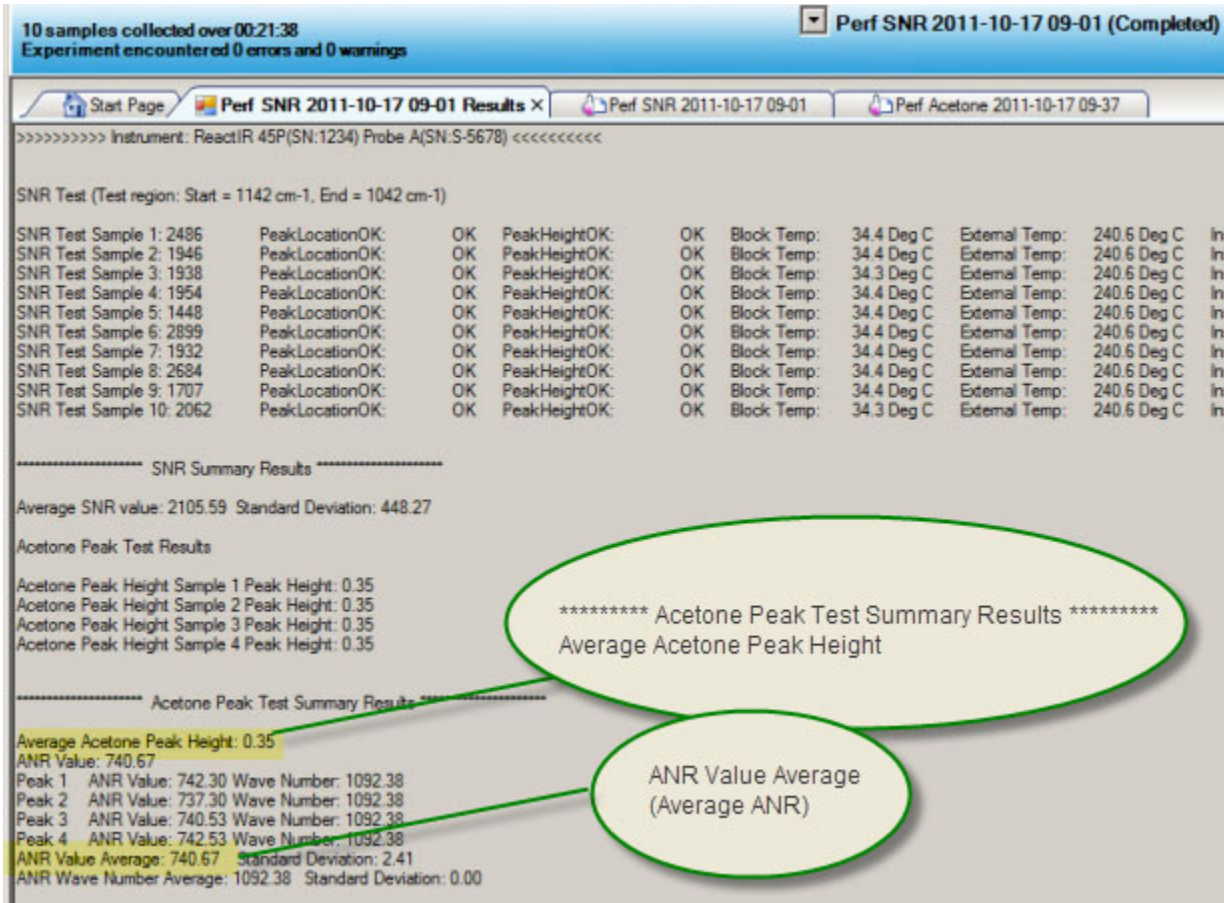

Figure 3-33 Performance SNR results in iC IR
6. After the test completes, 'Perf SNR' Results tab provides summarized values (Figure 3-33).